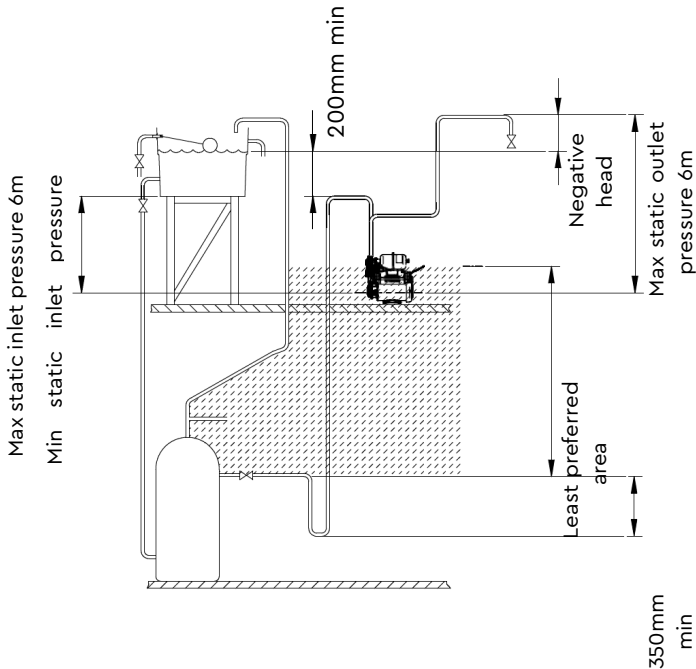
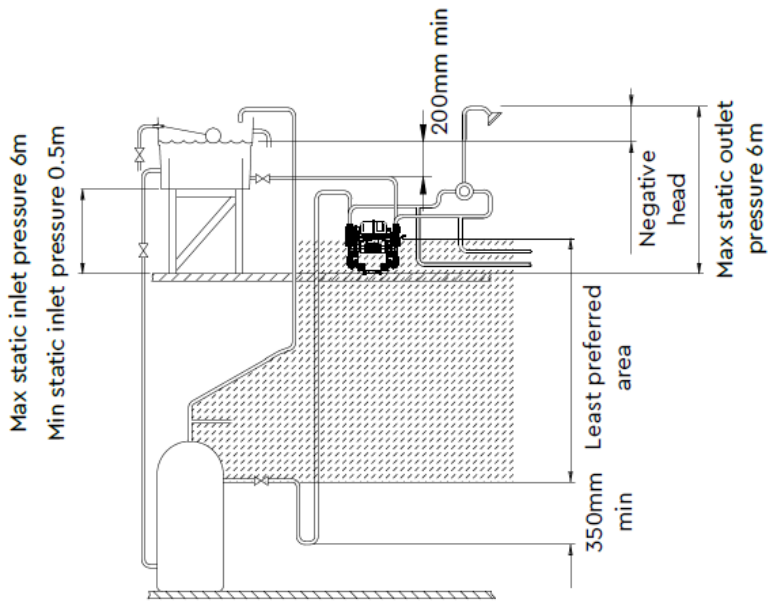

Figure 5
Figure 6
- **Static inlet pressure:** Before deciding where to locate the unit, check to ensure the static inlet head between pump and the bottom of the cold-water tank (Figure 5 and Figure 6), is at least 0.5 metres and does not exceed the max inlet head of 6 metres.
- **Static outlet pressure:** The static outlet head must also be within the maximum requirement (Figure 5 and Figure 6).